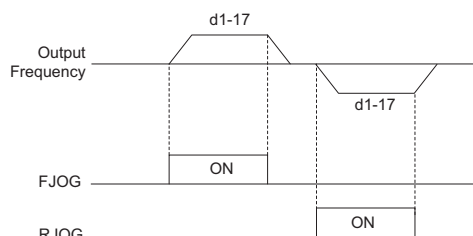

**Figure 5.58 Up/Down Command Operation**
**Figure 5.58** shows an Up/Down function example with a lower frequency reference limit set by d2-02, and the frequency reference hold function both enabled and disabled.